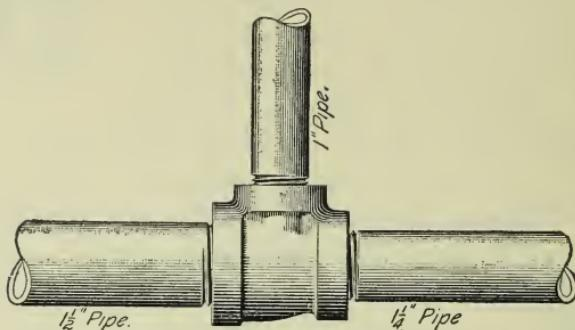
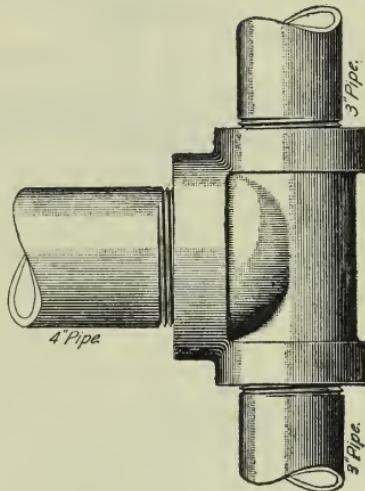

FIG. 12
FIG. 14
if all the openings were 1-inch, it would properly be called a  $1'' \times 1''$  tee. It is known more commonly to the trade, however, as a *straight 1-inch tee*. If the openings are different in size, it is necessary to be very careful in naming a tee. Thus, Fig. 12 shows a run of  $1\frac{1}{2}$ -inch pipe reduced to a run
**26. Reducing tees** are tees that have the run reduced in size, as shown in Fig. 12. A reducing tee may also have a reducing side outlet. In designating reducing tees, the largest opening does not take precedence. The side outlet is always named last, even though it is larger than either of the others.
**27. A bullhead tee** is shown in Fig. 14. It will be observed that the run of the pipe is smaller than the outlet. It is used generally where the larger pipe must have branches both ways at an angle of  $90^\circ$  to it. It can be made reducing on the run, the same as is shown in Fig. 12.